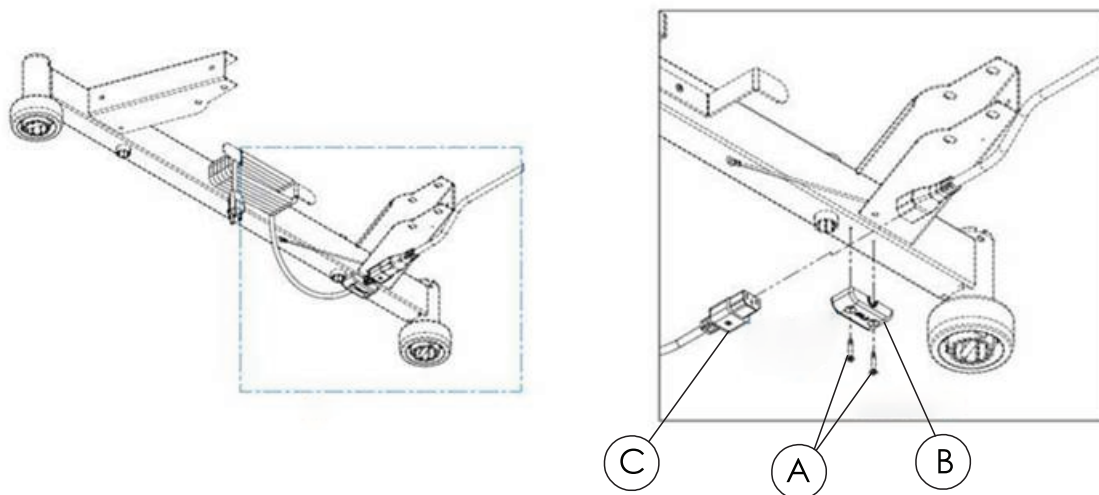

Figure 13: Power cord
4. Remove the two screws (A) that secure the power cord connection cover (B) to the litter frame (Figure 13 on page 53).
5. Remove and discard the external power cord (C) from the internal power cord (Figure 13 on page 53).